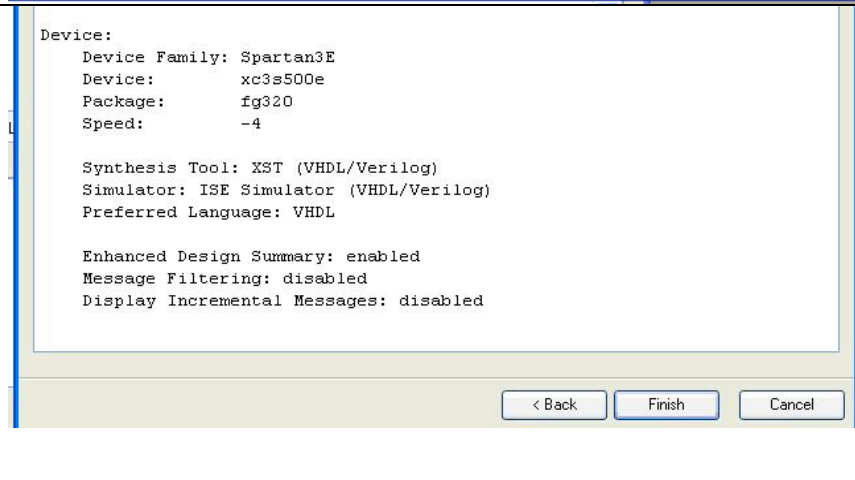

Figure 4: Project Summary
5. Review the information listed in Figure 4 to insure it matches the information in the window.